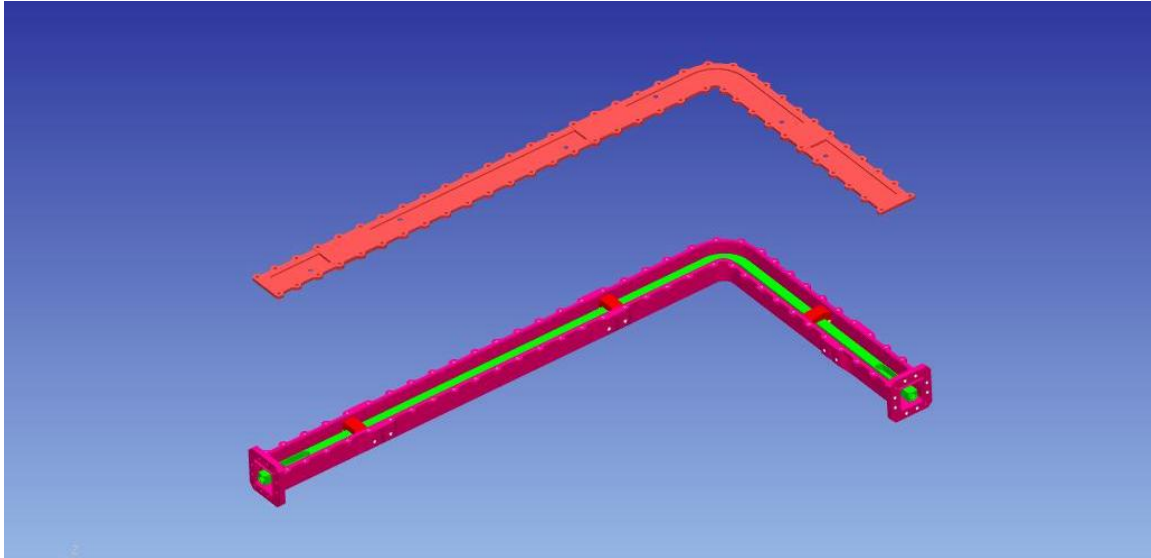

Figure 7: Installation of Housing Cover
9. Carefully install cover onto housing (Figure 7) using the following hardware: